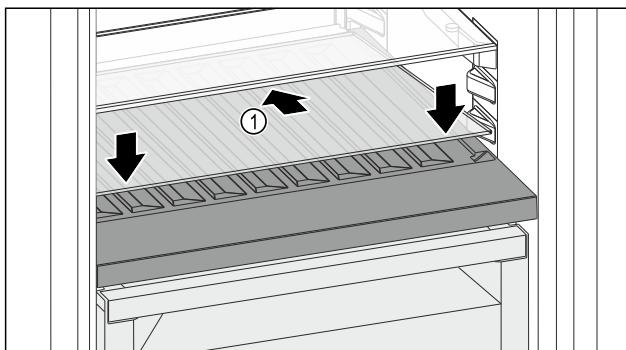

Fig. 151
- ▶ Place the glass shelf Fig. 151 (1) at an angle, sloping it downwards and backwards.
- ▶ Lower the glass shelf Fig. 151 (1) at the front.